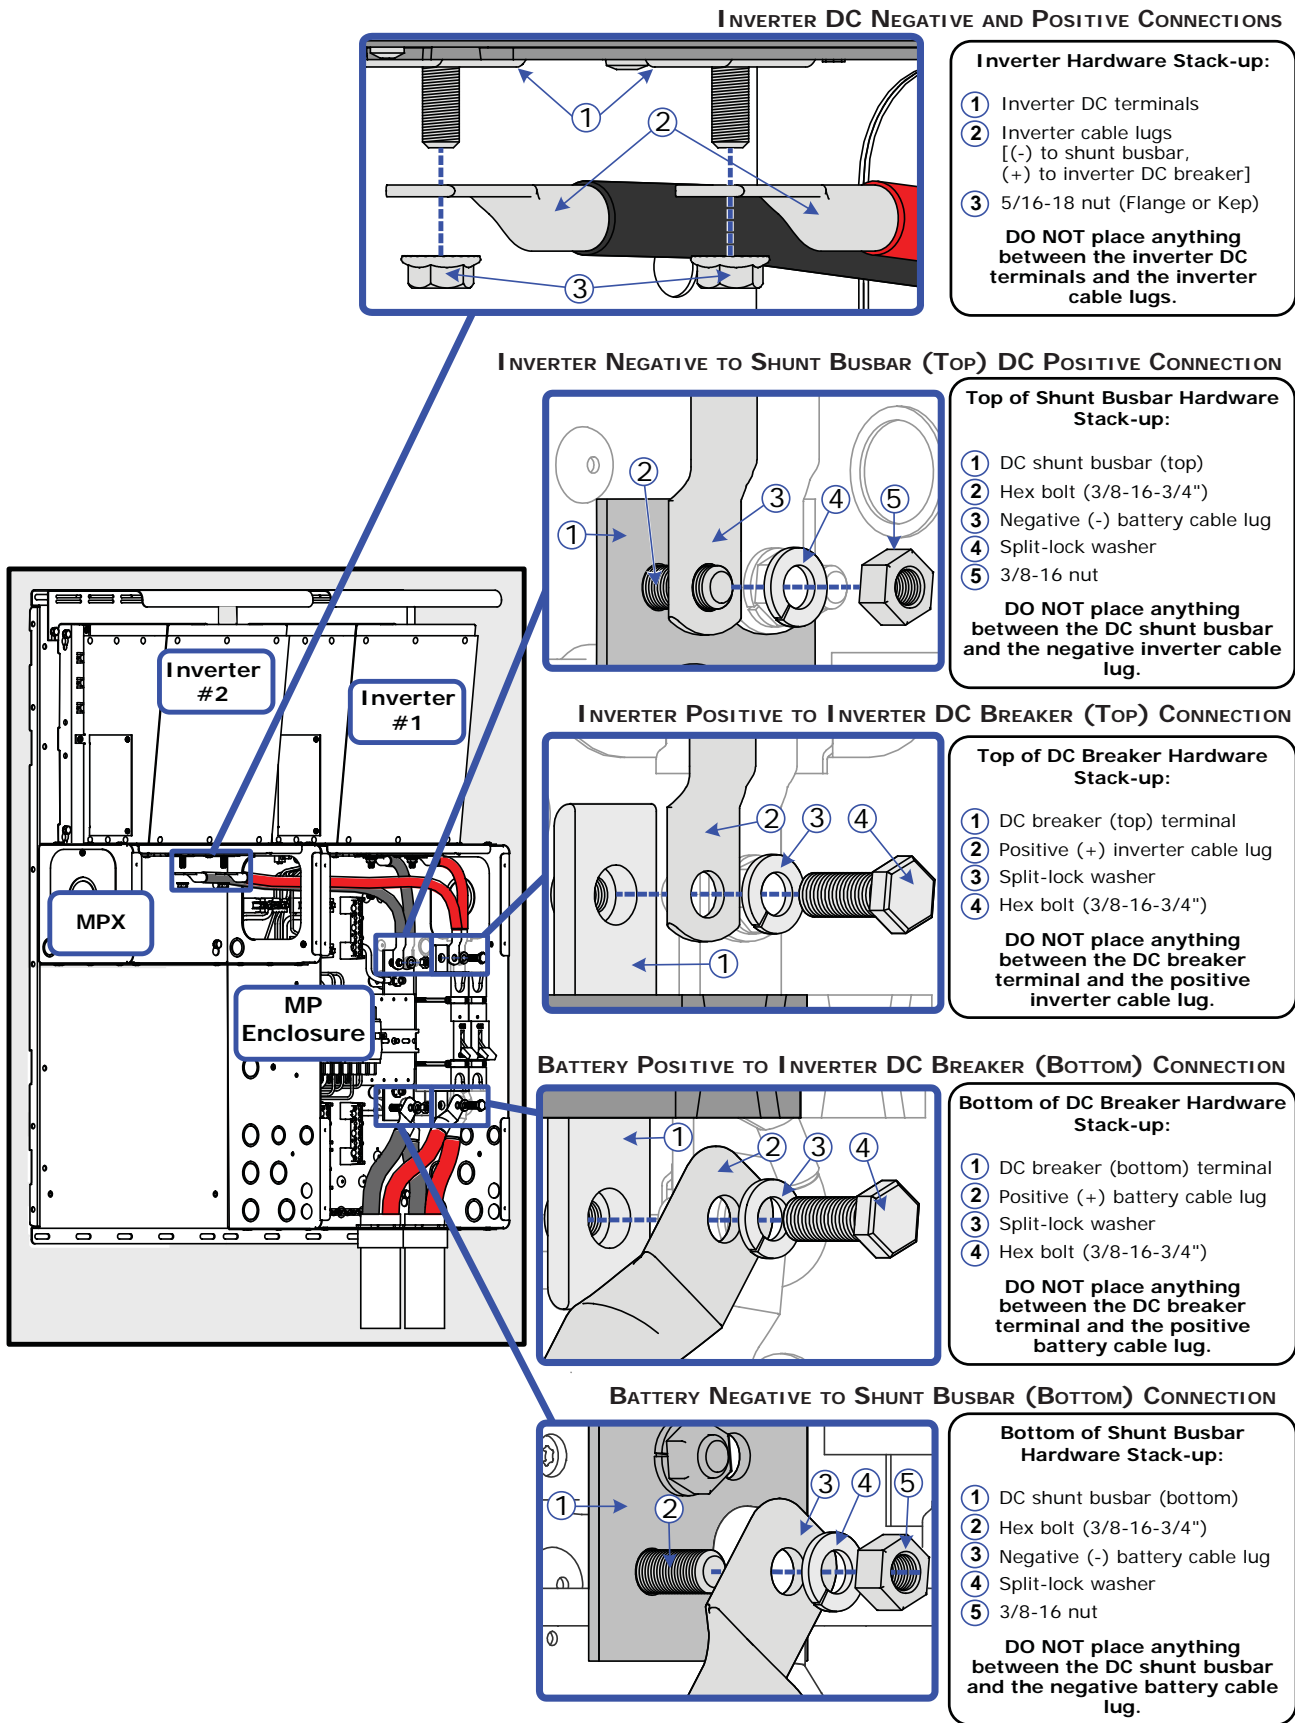

Figure 2-19, DC Cable Connections
Before proceeding with the DC wiring, review the instructions in Figure 2-19 to ensure proper DC cable stacking and connections. Do not put anything between the DC cable ring lug and the battery terminal post or the flat metal part of the inverter's DC terminal. When connecting the DC cable to the battery or inverter DC terminals, the cable should be placed directly against the inverter or battery terminals. Incorrectly installed hardware causes a high resistance connection which could lead to poor inverter/charger performance, and may melt the cable and terminal connections.
7. Ensure the DC wire connections (to the inverter, DC circuit breaker, and DC shunt) are flush on the surface of the DC terminals and the hardware used to hold these connections are stacked correctly (see Figure 2-19); and then securely tighten these connections.